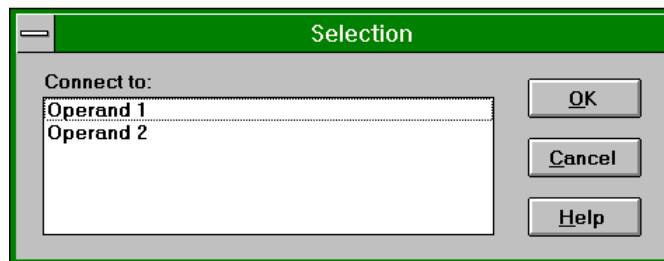
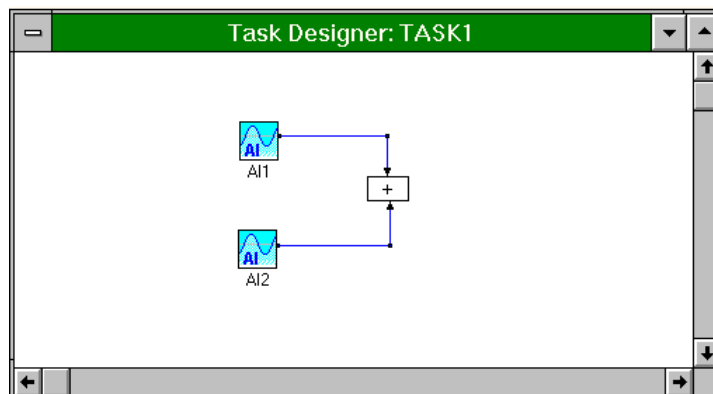

Figure 3-20 Select the operand of single operator
Figure 3-21 Wire two AI blocks to a single operand block
- Click on the Wire block in the task block toolbox. The mouse will change to a wiring icon. Click once on the AI1 block to be the source of a link connection and move the mouse to the single operator block and click once again. A wire connection will be established between AI1 and the single operator block. A pop-up panel will be displayed to choose the output channel number of AI1. Select the channel 0 to be the output channel, refer to Fig 3-20. Another pop-up panel will be displayed to choose the operand of operator Add. Select the operand 1. Refer to Fig 3-21.